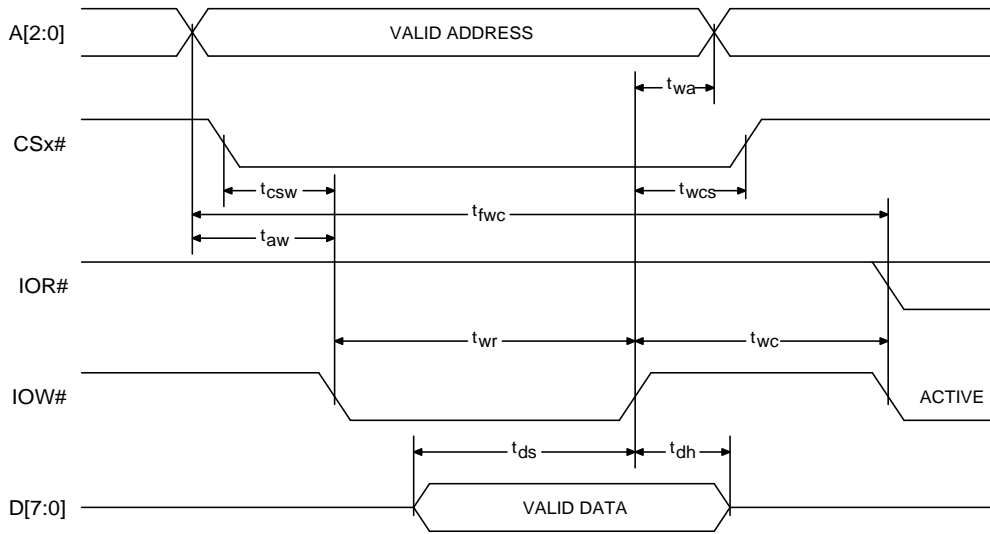

Fig 2. Write Cycle Timing Waveforms
The MCR controls the interface with the modem or data set as described in Figure 2. MCR can be written and read. The RTS# and DTR# outputs are directly controlled by their control bits in this register. A high input asserts a low signal at the output terminals. MCR bits 0-4 are shown as follows.
7.3. Write cycle timing requirements over recommended ranges of operating free-air temperature and supply voltage (See Fig 2.)